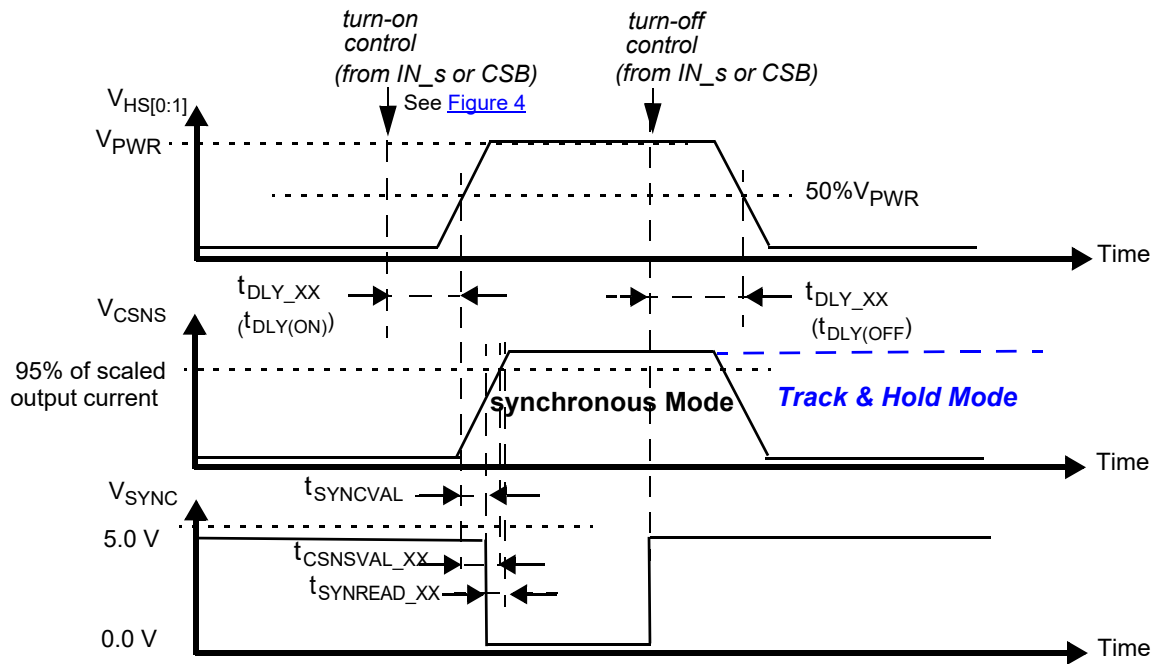

Figure 9. Synchronous and Track & Hold current sensing modes: associated delay and settling time
29. Time required to switch off the channel after detection of overtemperature (OT), overcurrent (OC), SC or UV error (time measured between start of the negative edge on the FSB pin and the falling edge on the output voltage until  $V(\text{HS}[0:1]) = 50\%$  of  $V_{PWR}$ ).
30. Settling time ( $= t_{CSNSVAL\_XX}$ ), SYNC output signal delay ( $= t_{SYNCVAL\_XX}$ ) and Read-out delay ( $= t_{SYNREAD\_XX}$ ) are defined for a stepped load current ( $100\text{ mA} < I(\text{LOAD}) < I_{OCLX\_A}$  FOR  $\text{CSNS\_RATIO\_S} = 1$ , AND  $300\text{ mA} < I(\text{LOAD}) < I_{OCLX\_A\_0}$  FOR  $\text{CSNS\_RATIO\_S} = 0$ ). (see Figure 9 and Output current monitoring \(CSNS\))
The CS pin allows independent current monitoring of channel 0 or channel 1 up to the steady state overcurrent threshold. It can also be used to sense the device temperature. The different functions are selected by setting bits CSNS1\_en and CSNS0\_en to the appropriate value (Table 23). When the CSNS pin is sensed during switch-off in the (optional) Track & Hold mode (see Figure 9), it outputs the scaled value of the load current as it was just before turn-Off. When several devices share the same pull-down resistor, the CSNS pins of devices the current of which is not monitored must be tri-stated. This is accomplished by setting CSNS0\_en = 0 and CSNS1\_en = 0 in the GCR register (Table 10). Settling time ( $t_{CSNSVAL\_XX}$ ) is defined as the time between the instant at the middle of the output voltage's rising edge ( $HS[0:1] = 50\%$  of  $V_{PWR}$ ), and the instant at which the voltage on the CSNS-pin has settled to  $\pm 5.0\%$  of its final value. Anytime an overcurrent window is active, the CSNS pin is disabled (see Overcurrent detection on resistive and inductive loads). The current and temperature sensing functions are unavailable in Fail-safe mode and in Normal mode when operating without the  $V_{DD}$  supply voltage. In order to generate a voltage output, a pull-down resistor is required ( $R(CSNS)=1.0$  k $\Omega$  typ. and  $470 < R(CSNS) < 10$  k). When the current sense resistor connected to the CSNS pin is disconnected, the CSNS voltage is clamped to  $V_{CL(CSNS)}$ . The CSNS pin can source currents up to about 5.6 mA.
To synchronize current sensing with an external process, the SYNC signal can be connected to a digital input of an external MCU. SYNC is asserted logic low when the current sense signal is accurate and ready to be read. The current sense signal on the CSNS pin has the specified accuracy  $t_{SYNCREAD\_XX}$  seconds after the falling edge on the SYNC pin (Figure 9) and remains valid until a rising edge is generated. The rising edge that is generated by the SYNC pin at the turn-OFF instant (internal or external) may also be used to implement synchronization with the external MCU. Parameter  $t_{SYNCVAL\_XX}$  is defined as the time between the instant at the middle of the output-voltage rising edge ( $HS[0:1] = 50\%$  of  $V_{PWR}$ ), and the instant at which the voltage on the SYNC-pin drops below 0.4 V ( $V_{SOL}$ ). The SYNC pins of different devices can be connected together to save  $\mu$ -controller input channels. However, in this configuration, the CSNS function of only one device should be active at a time. Otherwise, the MCU does not determine the origin of the SYNC signal. The SYNC pin is open drain and requires an external pull-up resistor to VDD.